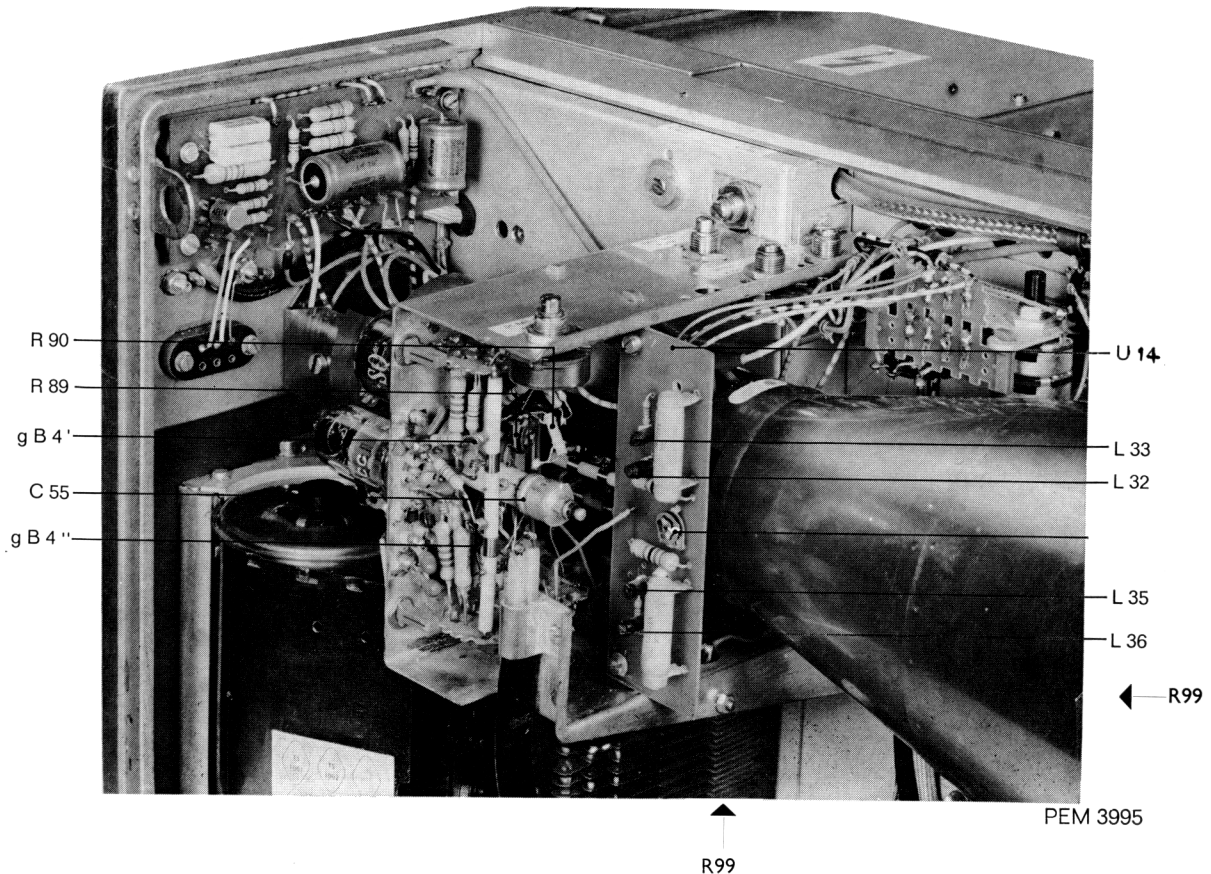

Fig. 55. Close-up of the final stage of the Y-amplifier (U14)
R 99 (Fig. 55)
R89 (Fig. 55)
C55–L32–L33–L35–L36–R75–R90 (Fig. 55)
- Simultaneously adjust C55 and R75 (Fig. 55) to a minimum rise-time (≥ 6 nsec.) and a flat top of the squarewave. The influence of C55 can be restricted or increased by changing the value of R90 (Fig. 55). The transition between the leading edge and the flat top of the display can be squared and flattened out by C33 and R53.